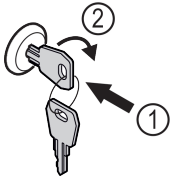

Fig. 153 Example illustration
- ▶ Insert key Fig. 153 (1).
- ▶ Turn key clockwise by 90° Fig. 153 (2).